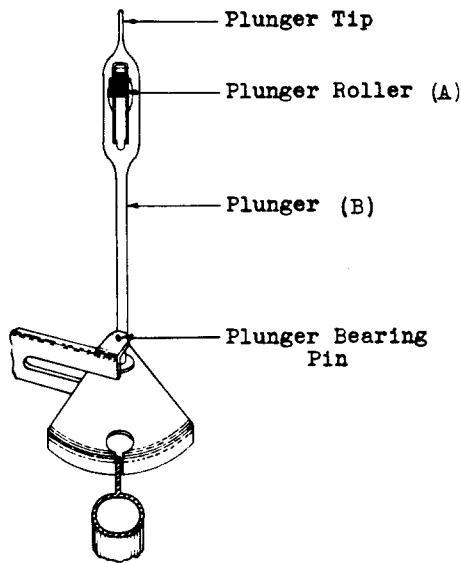

Fig. 3 — Switch Plunger
2.04 Plunger Roller Movement: Fig. 3(A) — The plunger rollers shall turn freely on their bearing pins.
2.05 Straightness of Plunger: Fig. 3(B) — The plunger shall be approximately straight from the plunger bearing pin to the tip. Gauge by eye.